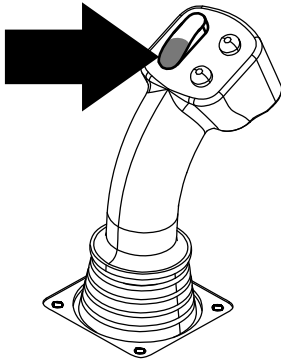

Figure 23
**Important:** Ensure that you hold the lower section of the cam rocker switch, on the left joystick, completely down until the action is complete in each step (Figure 23).